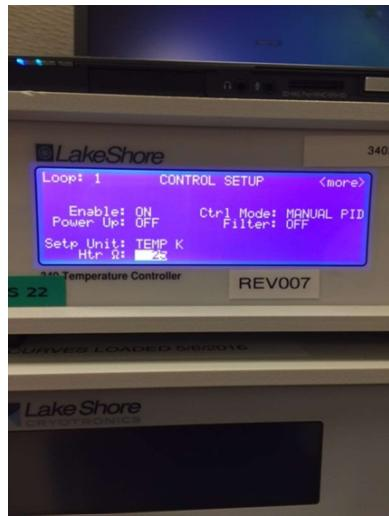

Figure 8
- 2.4 Using enter key, select heater resistance (Figure 8).